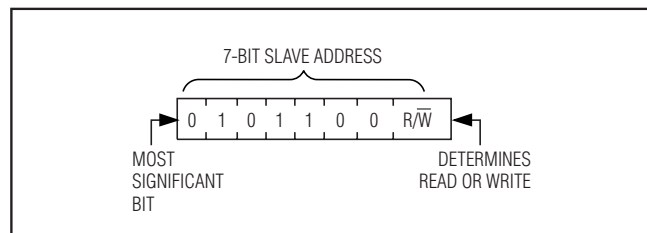

Figure 4. Slave Address and the R/W Bit
**Slave Address and the R/W Bit:** Each slave on the 2-wire bus responds to a slave addressing byte sent immediately following a START condition. The slave address byte contains the slave address and the R/W bit. The slave address (see Figure 4) is the most significant 7 bits and the R/W bit is the least significant bit.